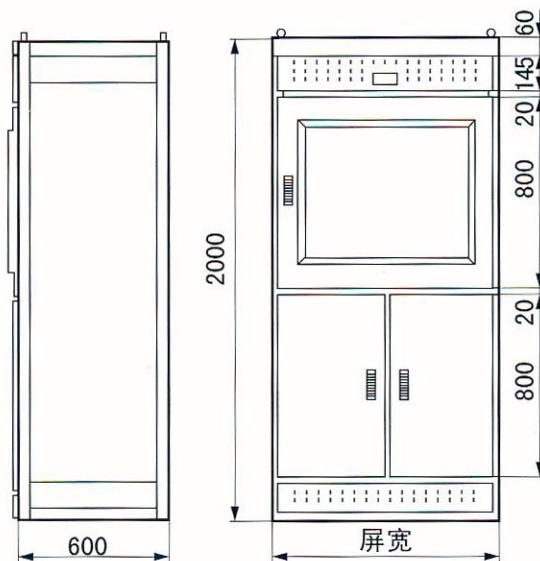

图5 PML1电能计量配电柜外型图
- ◆ PML1柜体尺寸: 500~1000 (宽) × 600 (深) × 2200 (高), 外形见图5。
- ◆ PML1: 500~1000 (Width) × 600 (Depth) × 2200 (Height); refer to Fig. 5 for overall.